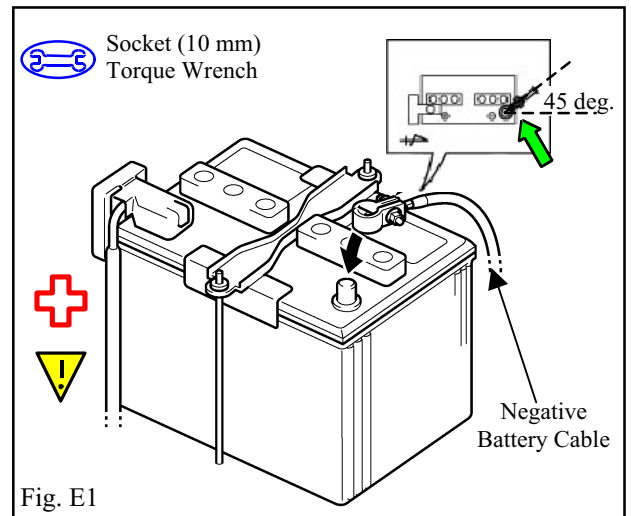

Fig. E1
1. Reconnect the vehicle's negative battery cable. (Fig. E1)